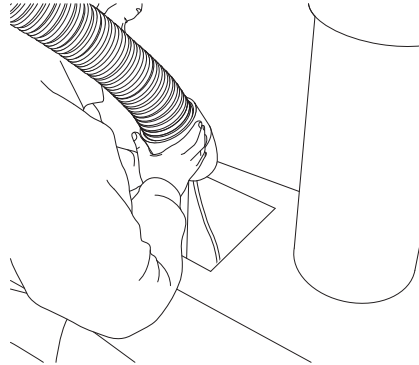

Fig. 28
10. A suitable weight should then be tied to the guide rope fixed to the cone. The weight can then be passed into the chimney and will draw the guide rope down (Fig. 28).